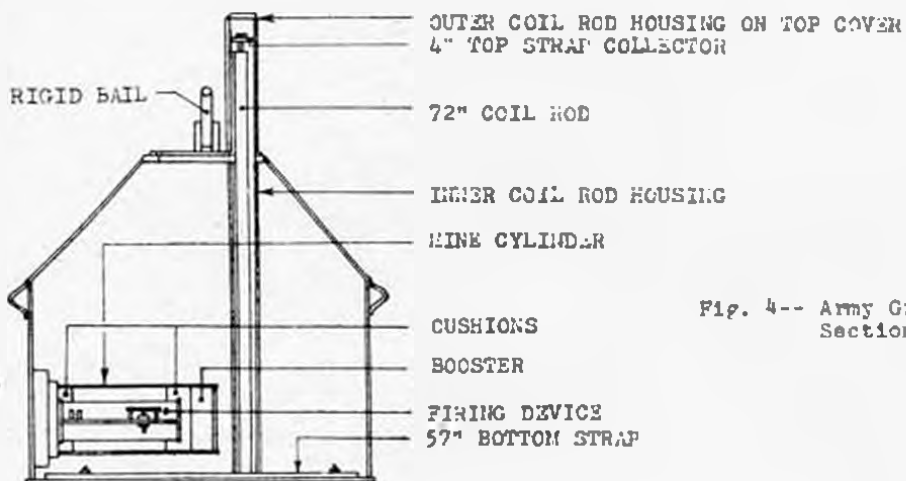

Fig. 4-- Army Ground Mine M4, Sectional View
1. Two nearly identical cases are used (M3 & M3A1) with seven different coil rod firing assemblies. The cases are large cylindrical tanks with a truncated cone top section, the cylindrical section being about 90" in diameter and the overall unit being about 60" high. The general assembly set-up for the various coil rod units is shown in Figures 4 and 5. The firing devices fit over the booster in a pocket on the side of the cylindrical section.